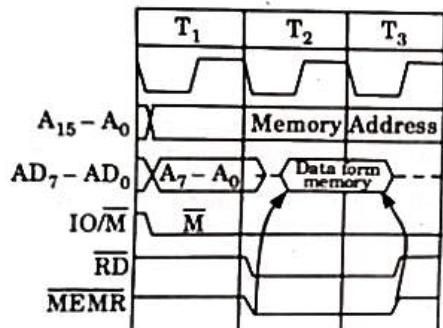

Fig. 1.20.2. Timing diagram of memory read cycle.
4. Fig. 1.20.2 shows the memory places the data byte from the addressed register during T_2 and that is read by 8085 before end of T_3 .